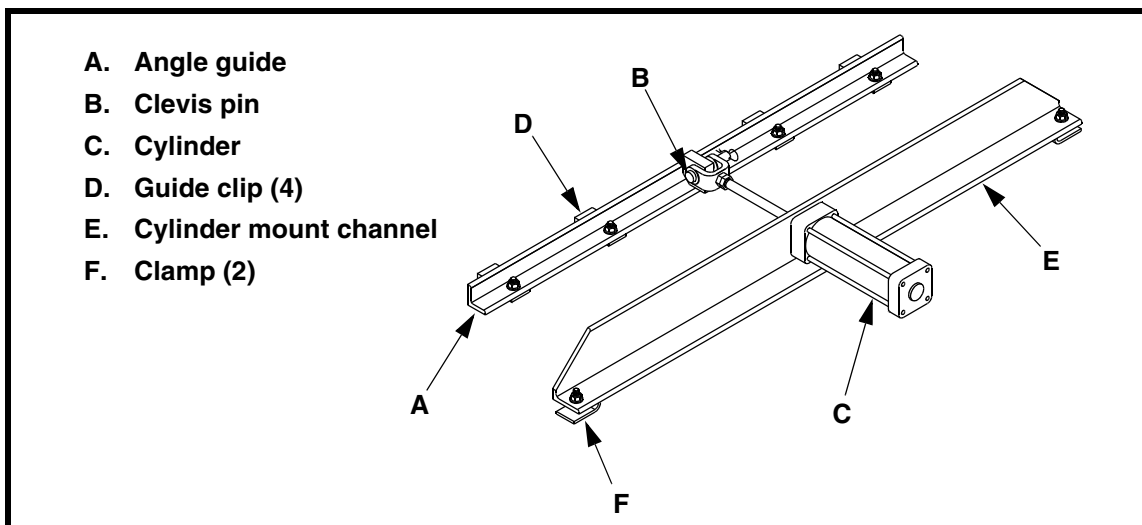

Figure 7. Installing Pneumatic Aligner
1. See Figure 7. Place pneumatic aligner between rail tracks with aligner angle guide (A) next to Railcar Connector.
2. Remove clevis pin (B) to separate angle guide from cylinder (C).
3. Slip angle guide clips (D) under frame rail on Railcar Connector.
4. Locate cylinder mount channel (E, Figure 7) so its face is 4-7/8 in. (124 mm) from face of angle guide. Slip clamp (F) on each end of cylinder mount channel under rail track.